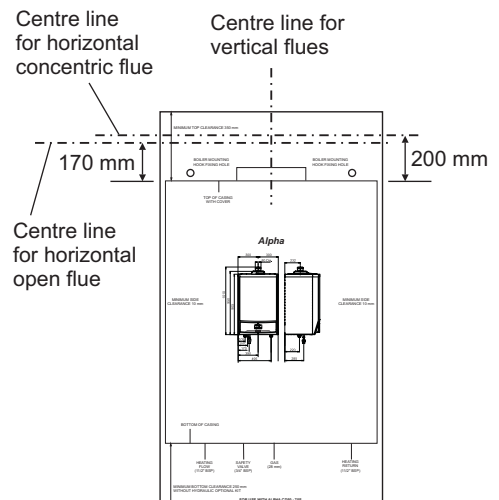

Fig. 13
4.3 PREPARE THE WALL - Fig. 13